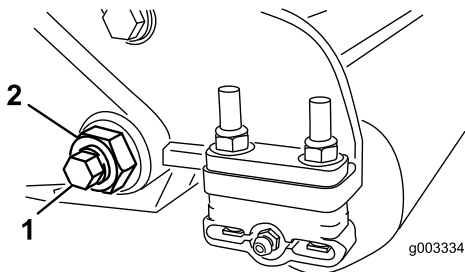
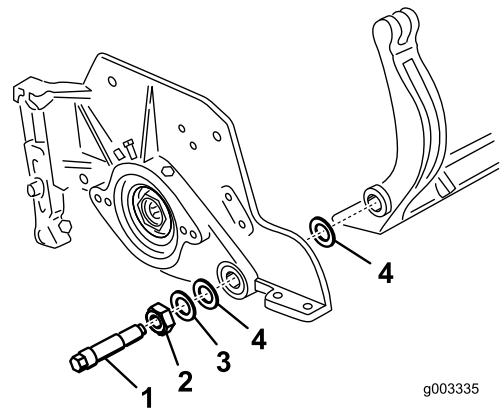

Figure 27
Figure 28
- On each side of the machine, loosen the lock nut securing the bedbar bolt (Figure 27).
- Remove each bedbar bolt allowing bedbar to be pulled downward and removed from machine bolt (Figure 27). Account for 2 nylon and 1 stamped steel washers on each end of bedbar (Figure 28).
- Secure bedbar to each side plate with bedbar bolts (nuts on bolts) and 6 washers. A nylon washer is to be positioned on each side of side plate boss. Place a steel washer outside each of the nylon washers (Figure 28). Torque bedbar bolts to 27-33 ft.-lb (37-45 N-m). Tighten locknuts until the outside steel washer stops rotating and end play is removed but do not overtighten or deflect side plates. Washers on inside may have a gap.